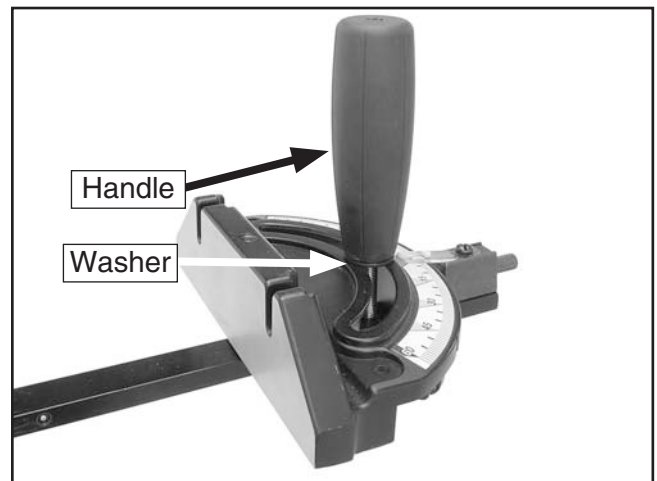

Figure 31. Miter gauge installed.
1. Install the miter gauge handle and 8mm flat washer onto the miter gauge as shown in **Figure 31**.